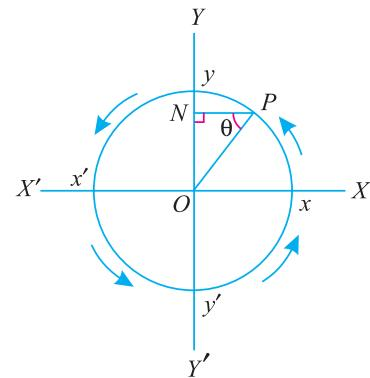

Fig. 23.1. S.H.M.
Consider a particle starting from  $x$  and moving round the circumference of circle in an anti-clockwise direction, with a constant angular velocity, as shown in Fig. 23.1. Let  $P$  be the position of the particle at any instant and  $N$  be the projection of  $P$  on the diameter  $Y-Y'$  of the circle.
- 1. Amplitude.** It is the maximum displacement of a body, from its mean position. In Fig. 23.1,  $Oy$  and  $Oy'$  is the amplitude of the particle  $N$ . The amplitude is always equal to the radius of the circle.
- 2. Oscillation.** It is one complete vibration of a body. In Fig. 23.1, when the body moves from  $y$  to  $y'$  and then back to  $y$  (or in other words from  $O$  to  $y$ ,  $y$  to  $y'$  and then  $y'$  to  $O$ ), it is said to have completed one oscillation.
- 3. Beat.** It is half of the oscillation. In Fig. 23.1, when the body moves from  $y$  to  $y'$  or  $y'$  to  $y$  (or in other words  $O$  to  $y'$  and then  $y'$  to  $O$ ), it is said to have completed one beat.